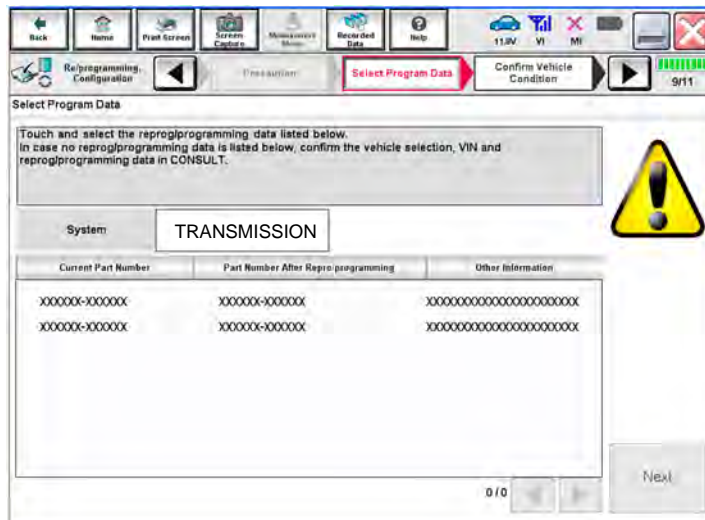

Figure 193
- If more than one new P/N is available, the screen in Figure 193 displays.